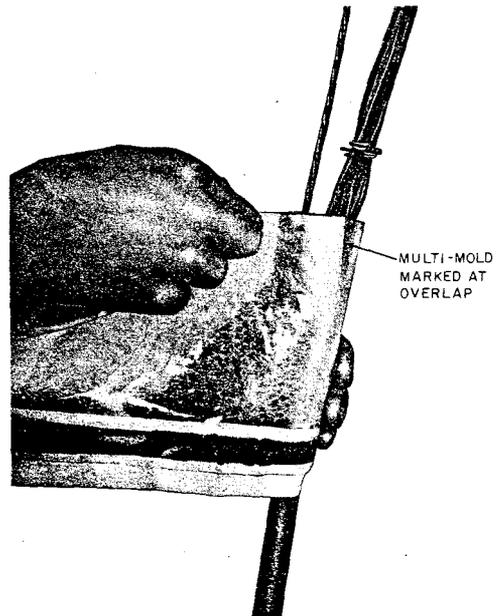

Fig. 7—Marking Multimold
- (g) To obtain the proper length mold, form the Multimold snugly around the ground clamp and circumference of the cable. Mark the surface of the Multimold where the end of the adhesive overlap overlaps the Multimold. The bonded mesh should be adjacent to the inner edge of the adhesive overlap (Fig. 7).